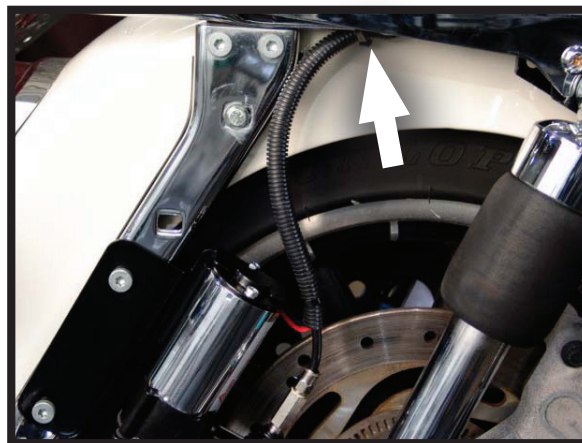

FIGURE 8
7. USING THE SUPPLIED WIRE LOOM AND CABLE TIES, WRAP THE WIRES AND HOSE TOGETHER BEING SURE TO KEEP DISTANCE FROM THE BRAKE SYSTEM. (FIGURE 8)